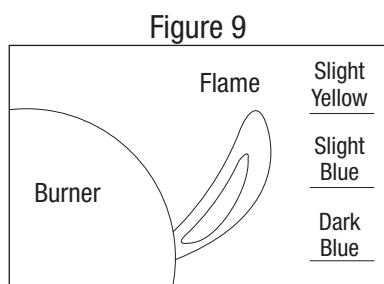

Figure 9
9. After lighting, please observe the burner flame, make sure all burner ports are lit and flame height matches illustration. (Figure 9)